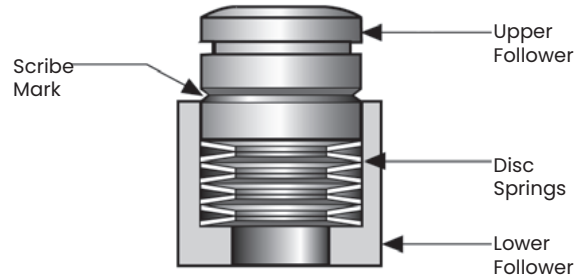

Figure 10 - Spring Loaded Follower
The spring loaded follower (available for applications rated ANSI 300 and below) consists of an upper and lower follower and eight (8) disc springs (see Figure 10). The springs are installed inside the lower follower and positioned alternately. The assembly is held together by tape, which must be removed before installation.